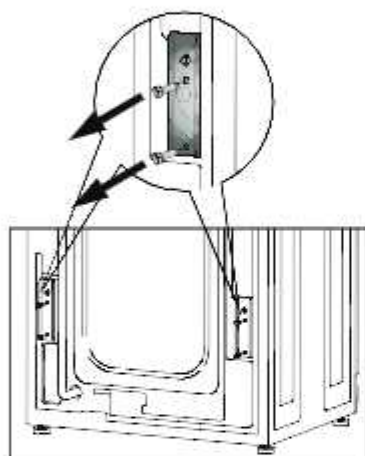
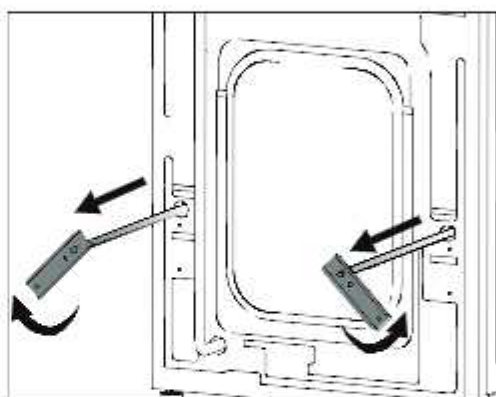
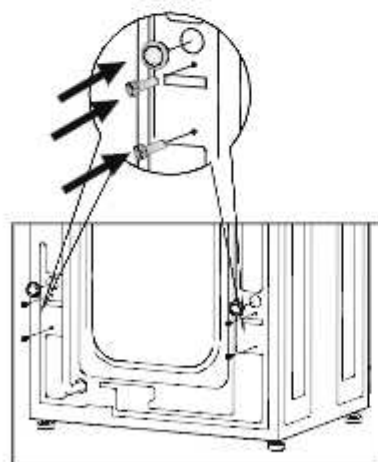

Fig.1
Fig.2
Fig.3
**Important:** The inside of the Washer consists of a free floating drum that is affixed with shipping rods at the back of the cabinet (Fig.1) during transport. Before starting the machine, remember to remove the shipping rods (Fig.2). Close the holes left open by the rods with the plastic caps provided (Fig. 3).